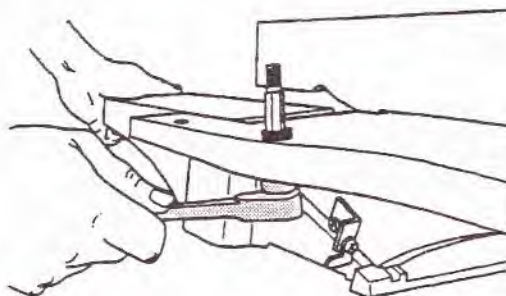

Fig. 10
17. Use a ratchet with a 1/2" socket to remove the old guard stud post, as shown in Fig. 10, and re-assemble your old jointer guard. Save it.